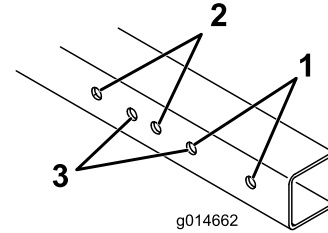

Figure 2
1. Refer to Figure 2 to determine which mounting holes that you should use to fit the width of your Greensmower.
Note: On the Greensmaster 1000, 1010, and 2000 when equipped with a groomer, you must remove the wheel shaft on the groomer end and purchase and install a new wheel shaft (Part No. 106-5385). Also, you must mount the rail assembly on the groomer end to Greensmaster 1600 and 1610 hole locations (Figure 2).